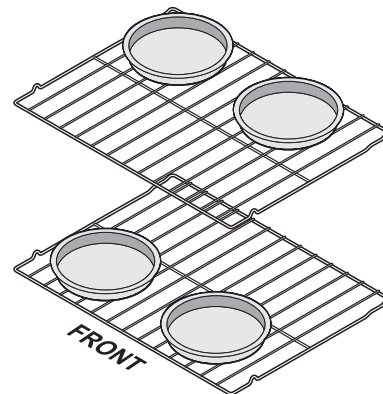

Figure 15: Pan positions for convection baking
- When baking cakes using two oven racks place bakeware in positions 3 and 5 and place bakeware as shown in Figure 15.